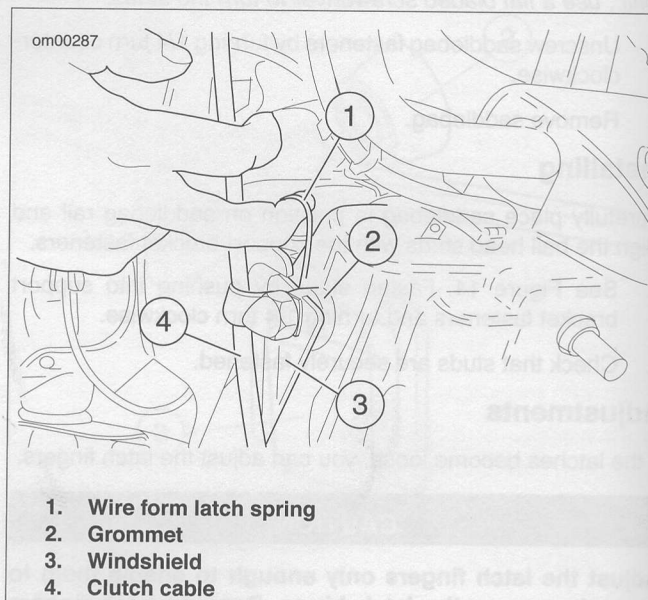

Figure 17. Windshield: FLHR/C
1. See Figure 17. Insert your fingers into the wire form latch springs at either side of the windshield and move the TOP
1. See Figure 17. Insert your fingers into the wire form latch springs at either side of the windshield and slide the BOTTOM windshield bracket notches onto the bottom grommets.